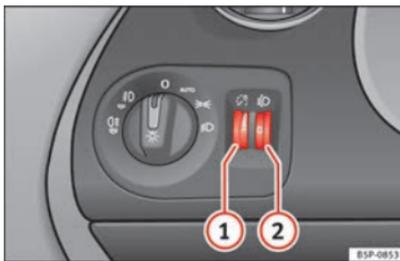

Fig. 70 Dash panel: lighting adjustment knobs for instrument lighting and switch lighting and headlight range control.
When the headlights are switched on, the brightness of the instruments and switch lighting can be regulated to suit your requirements by turning the thumb wheel ⇒ Fig. 70 ①.